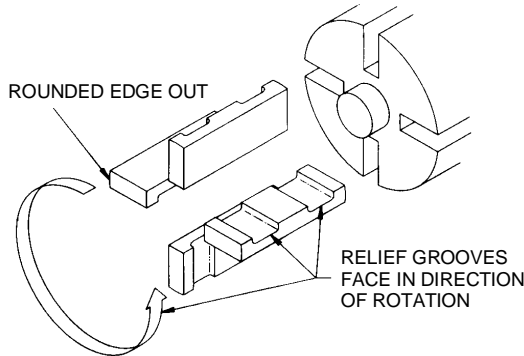
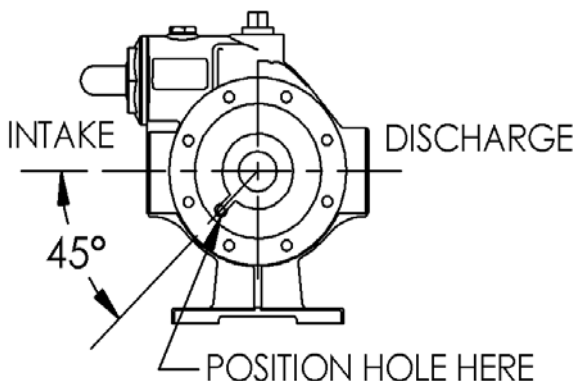

Figure 6 – Vane Replacement
Figure 7 - Disc Relief Hole Location
3. Turn the shaft by hand until a vane (14) comes to the top (12 o'clock) position of the rotor. Remove the vane.
4. Install a new vane (14), ensuring that the rounded edge is UP, and the relief grooves are facing towards the direction of rotation. See Figure 6.
1. Align the liner keyway with the setscrew (74) that extends down into the pump casing (12) and start the liner (41) into the casing. The word "INTAKE" cast on the liner must face the intake port of the pump casing. Uniformly tap the outer edge of the liner with a rubber mallet to fully insert into the casing.
2. Place the disc (71) against the liner (41) with the seal cavity outward and disc relief hole located as shown in Figure 7.
3. Without installing the head O-ring (72) or mechanical seal components, temporarily attach the outboard head (20) and bearing (24) to the casing (12). Install and hand-tighten two head capscrews (21), 180 degrees apart. This head will be used to hold and align the rotor and shaft (13) while the inboard side of the pump is assembled. **NOTE: It is a good practice to attach pump heads to the same ends they were removed from.**
4. Before installing the rotor & shaft assembly (13), the direction of pump rotation must be determined as follows: If the pump is to be **right-hand** with **clockwise** rotation, the intake port and the relief valve must be on the **right** with the drive end of the shaft pointing towards the observer. If the pump is to be **left-hand** with **counterclockwise** rotation, the intake port and the relief valve must be on the **left** with the drive end of the shaft pointing towards the observer.
5. Remove the vanes (14) and push rods (77) (if equipped) from the rotor and shaft assembly (13). Inspect for wear and damage, and replace as follows:
- a. Insert the vanes (14) into the bottom rotor slots with the relief grooves facing in the direction of pump rotation, and with the rounded edges outward. See Figure 6.
- b. If the pump is equipped with the four-vane rotor and shaft (13A), hold the two bottom vanes (14) in place while inserting the two push rods (77).
- c. After the bottom vanes (14) (and push rods, (77) if equipped) are installed, carefully insert the non-driven end of rotor and shaft into the casing (12).
- d. Install all remaining vanes (14) into the top positions of the rotor.
6. Install the disc (71) on the inboard side of the pump with the seal cavity facing outward and the disc relief hole located as shown in Figure 7.
7. Install a new head O-ring (72) in the groove between the disc (71) and the casing(12).